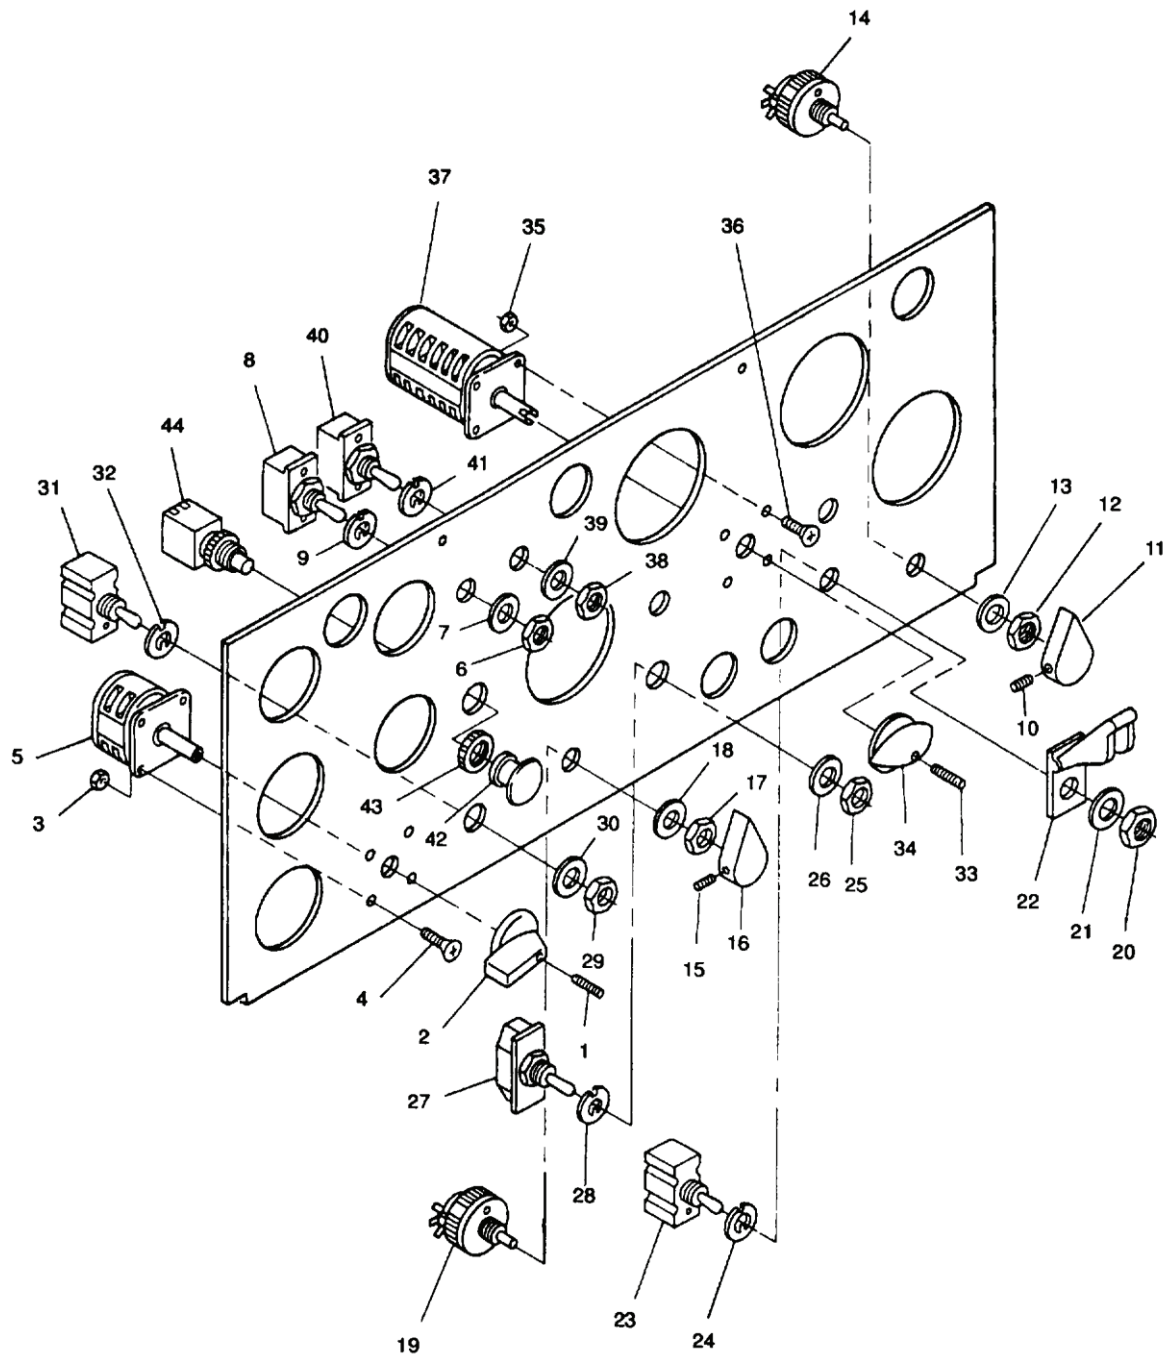

Figure 1. Control Panel Switches.
4. Tag and disconnect AC Voltmeter (Volts AC) (WP 0023, Figure 1, Item 31) electrical leads and remove sleeves (28).
5. Remove nuts (29), washers (37), and screws (30).
6. Remove AC Voltmeter (Volts AC) (31) from control panel.
1. Insert AC Voltmeter (Volts AC) (WP 0023, Figure 1, Item 31) into control panel.
2. Install screws (30), washers (37), and nuts (29).
3. Connect electrical leads, remove tags, and install sleeves (28) over terminals.
4. Loosen setscrew (Figure 1, Item 1) and remove knob (2) from MASTER SWITCH (5).
5. Remove nuts (3) and screws (4).
6. Remove MASTER SWITCH (5) from control panel.
7. Tag and disconnect MASTER SWITCH (5) electrical leads.
4. Tag and disconnect MASTER SWITCH (Figure 1, Item 5) electrical leads.
8. Connect electrical leads to MASTER SWITCH (5). Remove tags.
1. Connect electrical leads to MASTER SWITCH (Figure 1, Item 5). Remove tags.
2. Insert MASTER SWITCH (5) into control panel.
3. Install screws (4) and nuts (3).
4. Install knob (2) and tighten setscrew (1).
WP 0032, Figure 1, Items: 8 & 9
4. Tag and disconnect ETHER switch (WP 0032, Figure 1, Item 8) electrical leads.
5. Remove nut (6) and washer (7).
6. Remove ETHER switch (8) from control panel and remove tab washer (9).
8. Connect electrical leads to ETHER switch (8). Remove tags.
1. Install tab washer (WP 0032, Figure 1, Item 9) and insert ETHER switch (8) into control panel.
2. Install washer (7) and nut (6).
WP 0032, Figure 1, Item 14